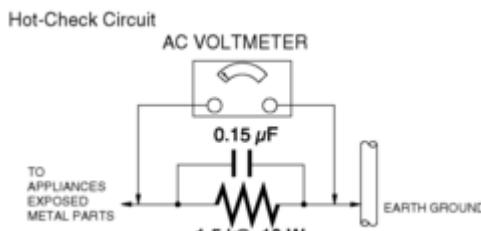

Figure. 1
## 1.3 Leakage Current Hot Check (See Figure. 1)
2. Connect a  $1.5\text{ k}\Omega$ ,  $10\text{ W}$  resistor, in parallel with a  $0.15\text{ }\mu\text{F}$  capacitor, between each exposed metallic part on the set and a good earth ground, as shown in Figure. 1.